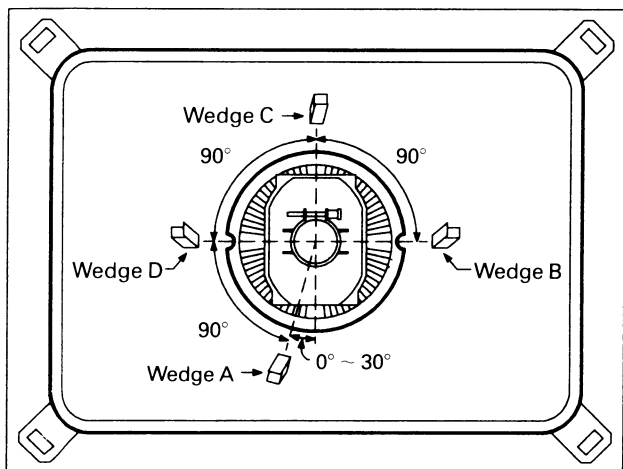

Fig. 12
1. Wedge A shown in Fig. 12 should be fixed within a range of $0^\circ \sim 30^\circ$ to the left of the vertical line as shown.